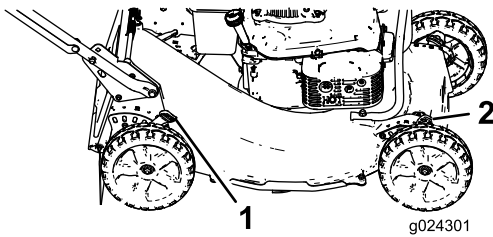

Figure 13
1. Pull the cutting-height lever toward the wheel (Figure 13) and move the lever to the desired setting.